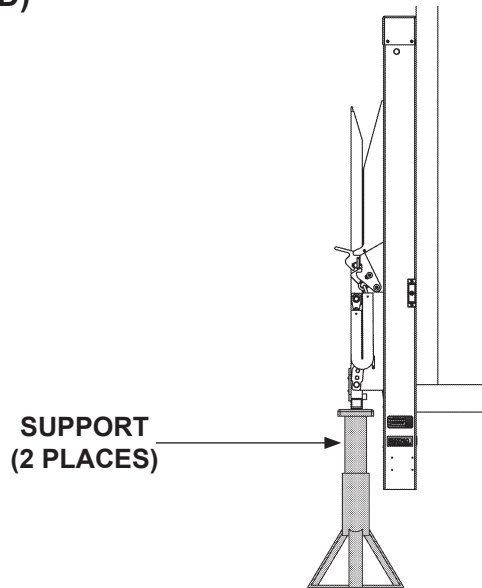

FIG. 22-1
2. Support bottom of platform and flipover evenly on RH and LH sides (**FIG. 22-1**).